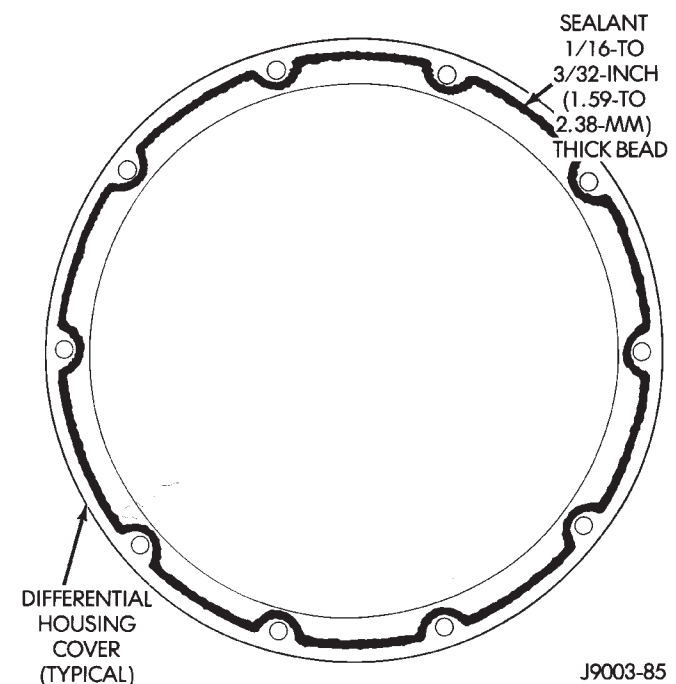

Fig. 8 RTV Sealant Application—Typical
- (5) Flush the inside of the differential housing with a flushing oil. **Do not use water, steam, kerosene or gasoline for flushing.**
- (6) Remove any residual RTV sealant/gasket material from the differential housing and cover. Thoroughly clean the contact surfaces with mineral spirits and dry the surfaces completely.
- (7) Apply a bead of MOPAR RTV Sealant, or an equivalent sealant, around the bolt circle on the housing and on the cover (Fig. 8).